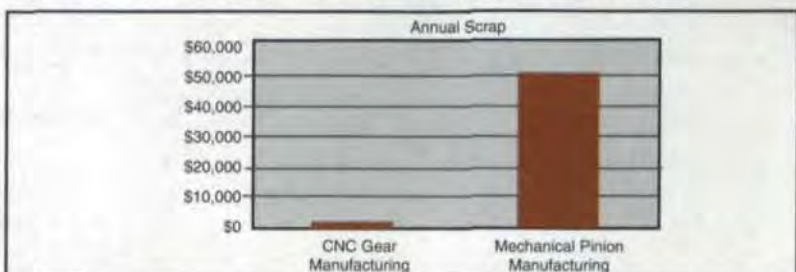

Figure 12—Comparison of annual scrap rates between CNC and mechanical manufacturing.
**Quality Improvement.** Prorated annual scrap savings was \$47,000 as compared with three mechanical pinion cells using old machines and HSS cutting tools and producing approximately the same amount of parts (Fig. 12).